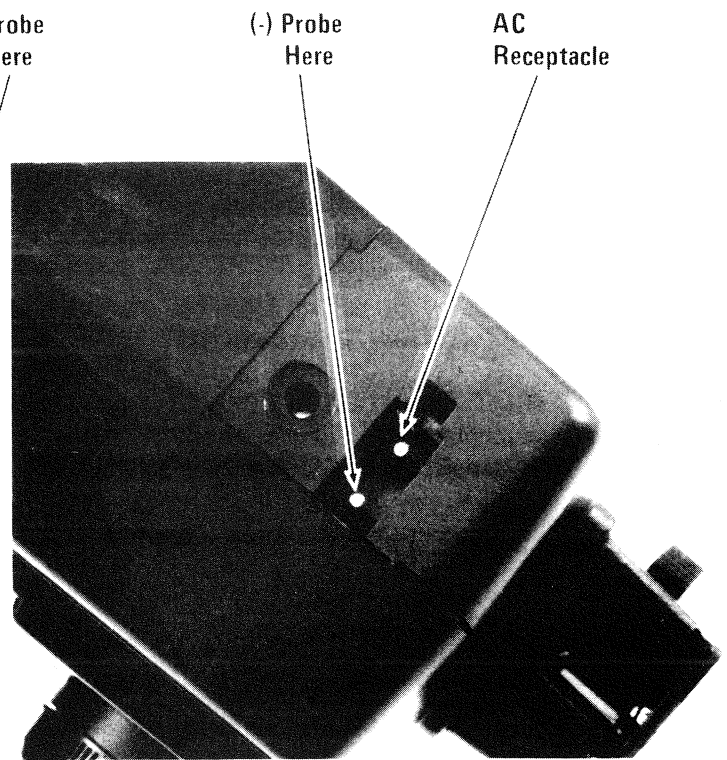

Figure 4-2. Checking Main Capacitor Voltage
- A. Disconnect main capacitor C1 from the circuit (after discharging it through a 100 ohm, 10W resistor) and connect it to the test circuit as shown in Fig. 4-2.